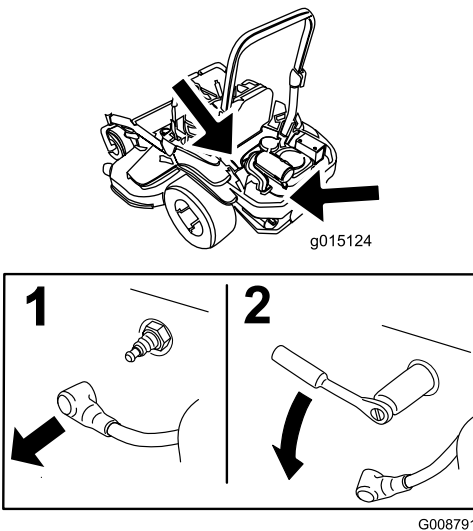

Figure 50
3. Locate and remove the spark plugs (Figure 50).